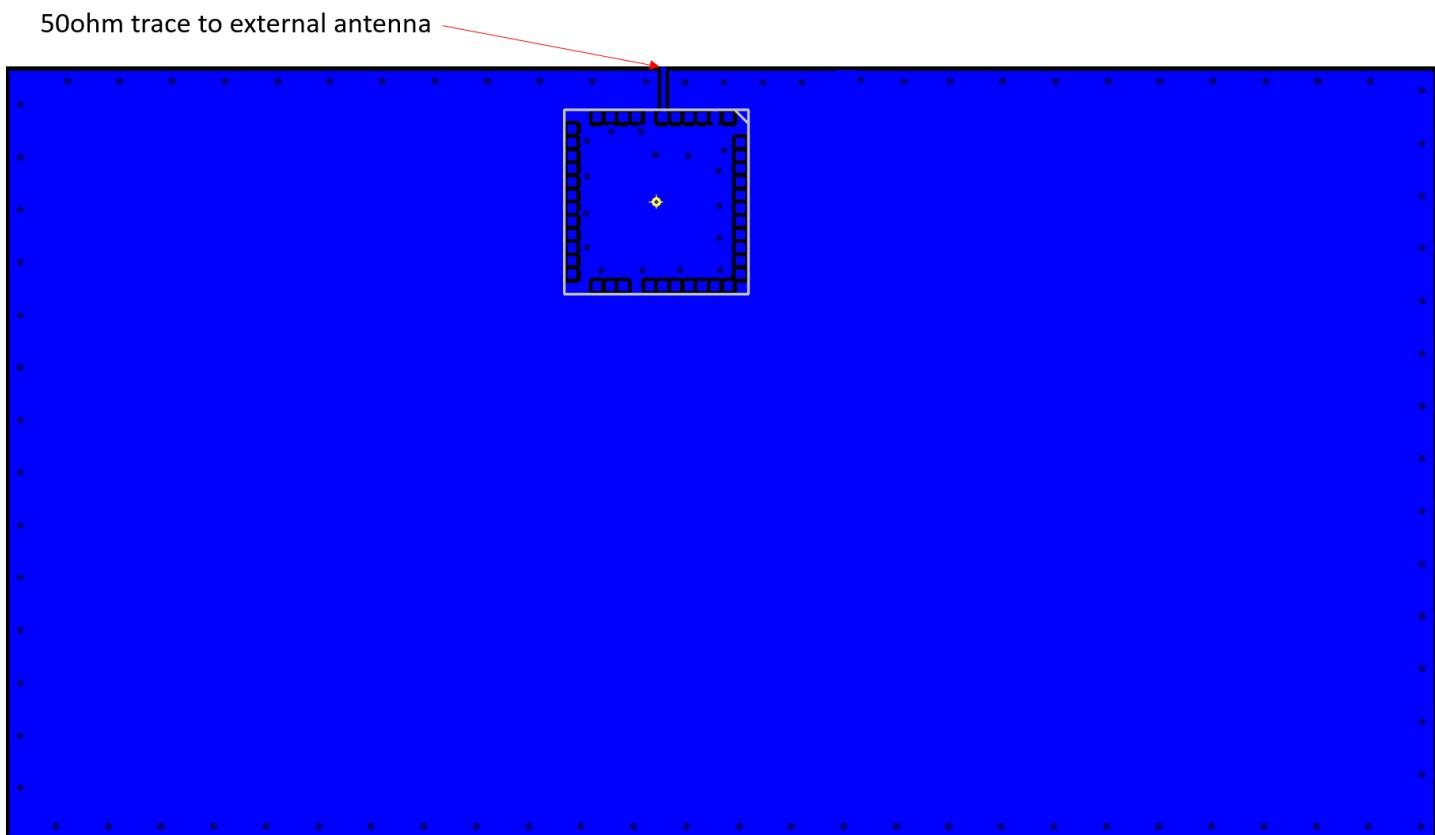

Figure 7.4. Recommended Layout for MGM240S (External Antenna)
- With an external antenna, use a 50Ω trace to connect RF signal to the antenna, as it is illustrated in Figure 7.4 Recommended Layout for MGM240S \(External Antenna\) on page 42